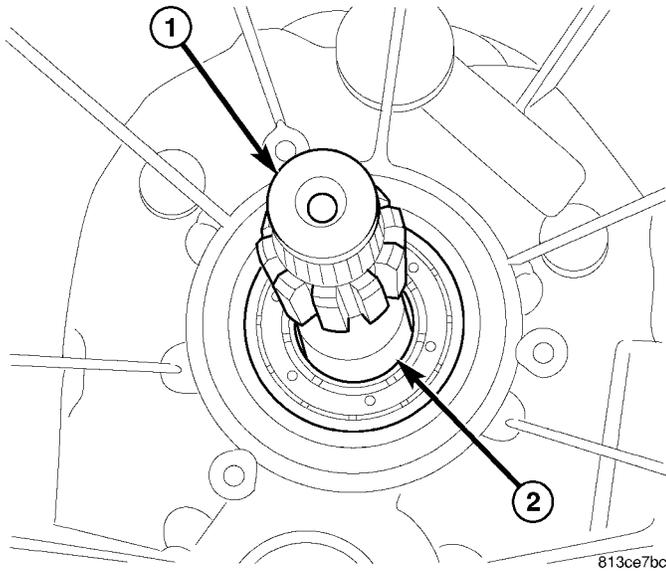

Fig. 95 INPUT SHAFT IN HOUSING
(2) Install input shaft (1) (Fig. 95) with bearing (2) into housing.